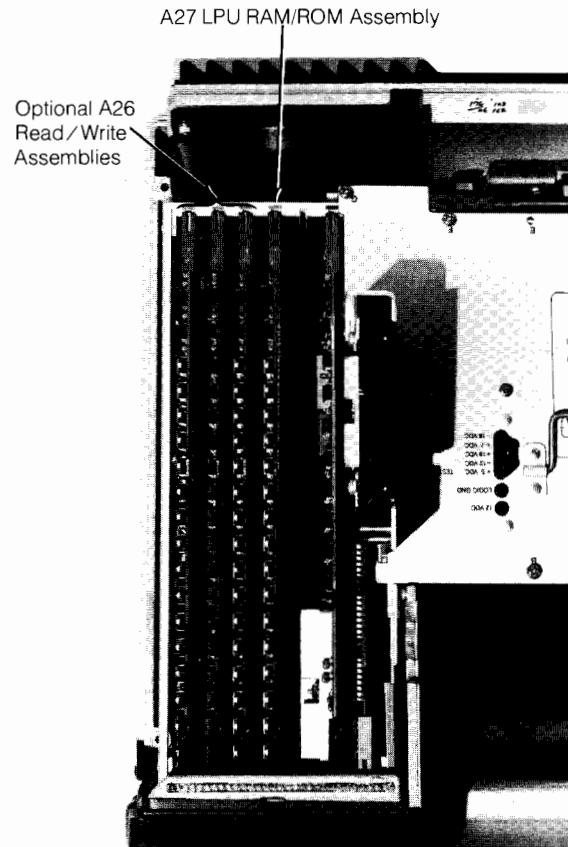

Figure 1-5: Memory Assembly Locations
- Loosen the keyboard bezel and move it forward. There is room for four memory assemblies in the 9845B. Install the kit A26 assemblies in the slots adjacent to the last memory assembly (see Figure 1-5).